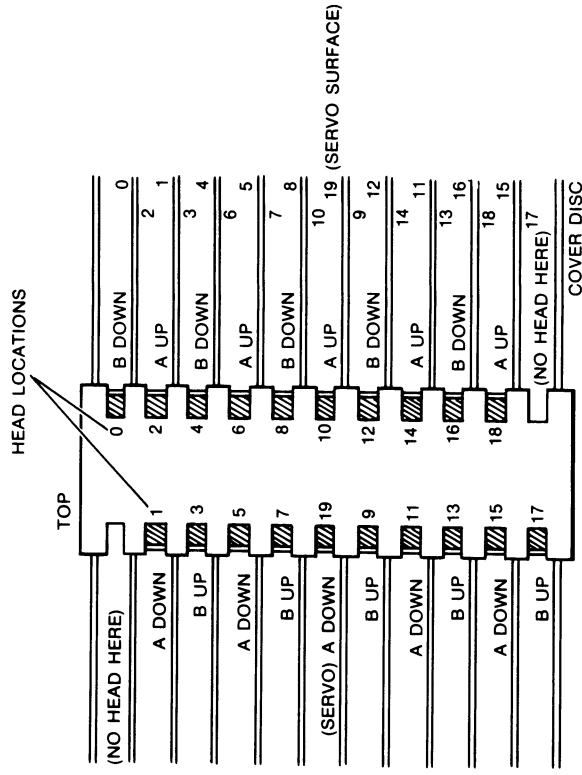

FIGURE 4-6. T-BLOCK, VIEWED FROM LINEAR MOTOR
7. Determine whether the head is an 'A' or 'B' type head by referring to Figure 4-6.
- **UPPER LEFT AND LOWER RIGHT SLOTS DO NOT RECEIVE HEADS.** (Refer to Figure 4-6.)
- b. An 'A' or 'B' type head assembly must be installed into an appropriate position, noting whether it is "up" or "down" (see Figure 4-6). This information is engraved on the head assembly.
4. Select head to be aligned. If more than one head or a full complement of heads is to be aligned, the alignment order should be as follows: Align heads 9 through 18, incrementing one head at a time, then heads 8 through 0, decrementing one head at a time. See Figure 4-6 for head numbering scheme.